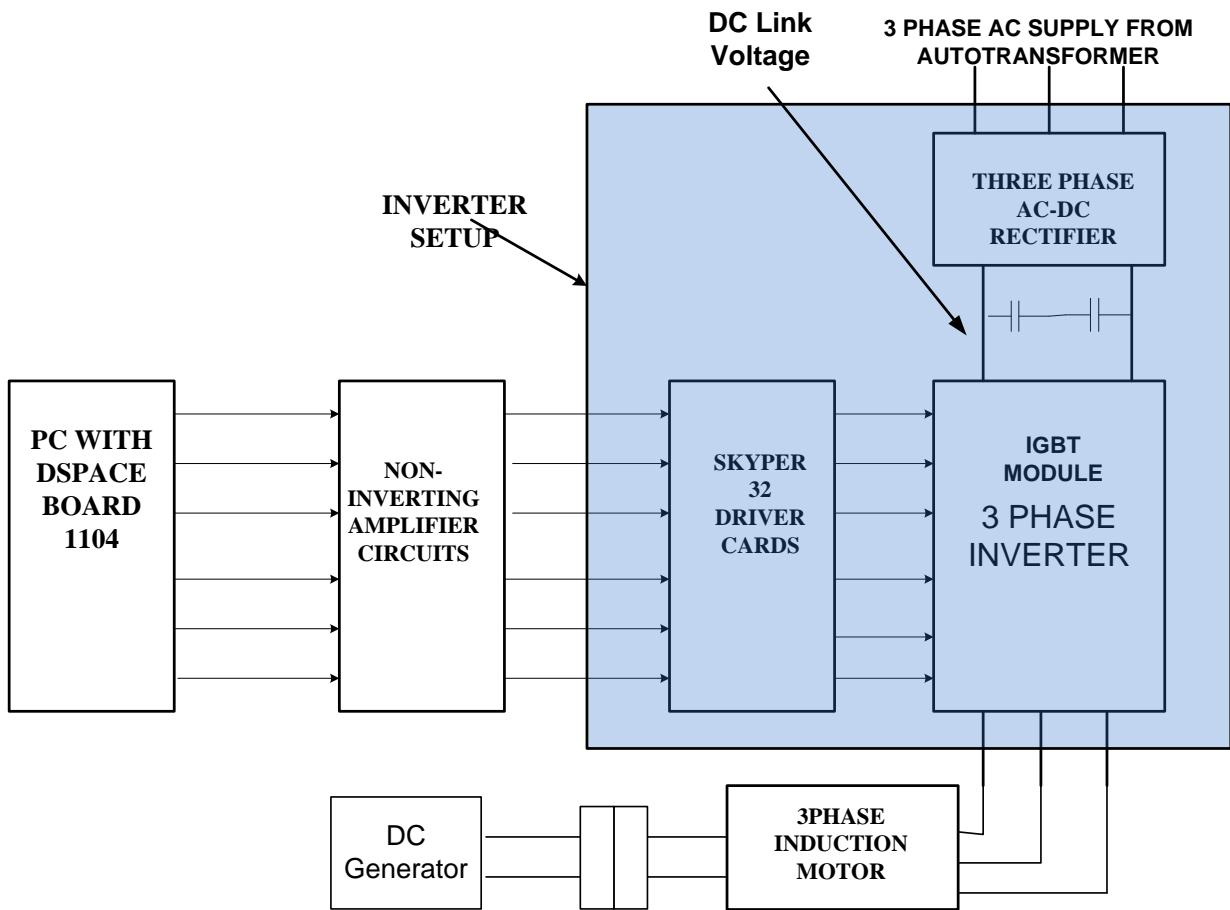
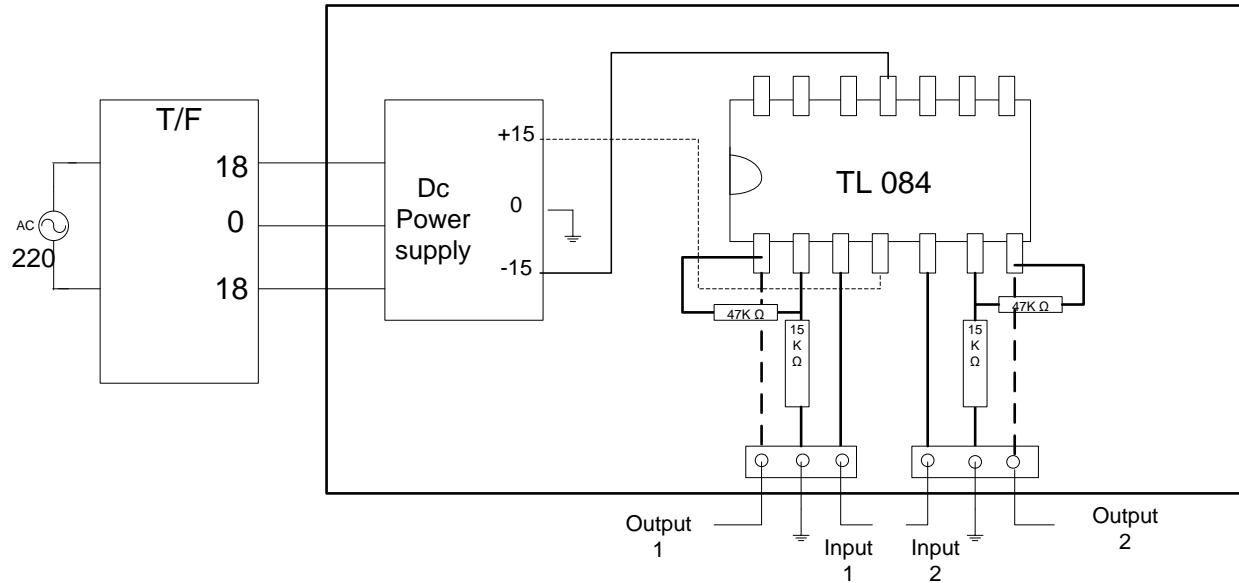

Fig. 1. The schematic for three phase inverter system
Fig. 3. Non-inverting Amplifier circuit
The set up in our laboratory has AC to DC rectifiers and then DC to AC inverters. The ac to dc rectifiers is used to generate dc link voltage. To vary the dc link voltage, we can feed the ac power using three phase autotransformer. The inverter has inbuilt driver Circuit (Skyper32R) in it, which needs the +15V power supply and the gate signal for the switches should have voltage level of 0/15V. The setup has facility that we can give the control signal from the outside which can be generated from dSPACE board. The output of dSPACE board is of TTL logic i.e., 0/5V, so we need to amplify the signal using non inverting amplifier circuit. The non-inverting amplifier (fig.3) circuit needs a ac input of 18-0-18 Volts from center-tapped transformer, to generate the power supply of $\pm 15V$ which is needed for the non-inverting amplifier circuit. The non-inverting amplifier circuit is given input of 5Volts and it is amplified to the level of 15V. The schematic for the entire setup for three phase inverter is given in the Fig.1.
- b) One board of non inverting amplifier circuit has two amplifier circuits in it (See Fig. 3). It has an inbuilt power supply of $\pm 15V$. Two signals for the switches (switches 1 and 4 or 3 and 6 or 5 and 2) of same leg should be given in the same board. The output of the amplifier should be fed to driver circuits. And the same board should be used to give the power supply to the driver circuit (Skyper32). Care should be taken that before switching on the ac power given to the amplifier board, signals from the dSpace board is given to the respective tagged wires of the circuit.